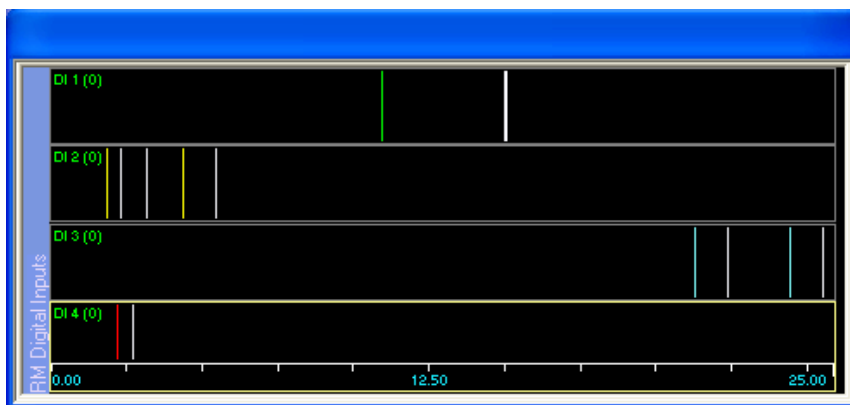

Figure 78: Single-Bit Digital Input Display
1. From the **Windows List** button , select a digital input Workspace window. The window appears (*Figure 78*), with each input bit in the window appearing in its own graph.